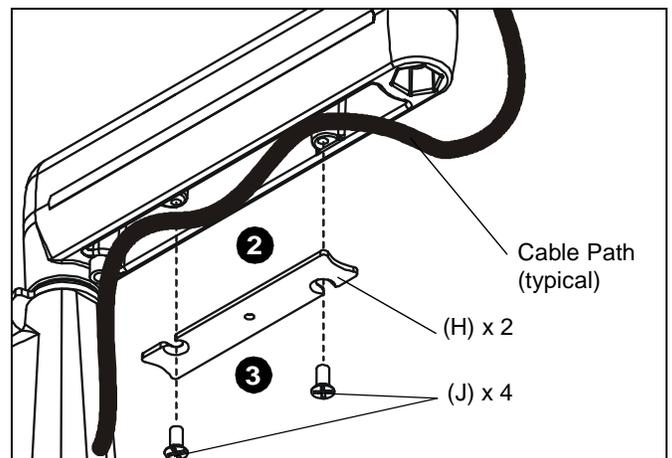

Figure 6
3. Carefully insert cables in cavity located in lower portion of mount arm (See Figure 6).
4. Using Phillips screwdriver, install cover (H) with two screws (J). (See Figure 6)